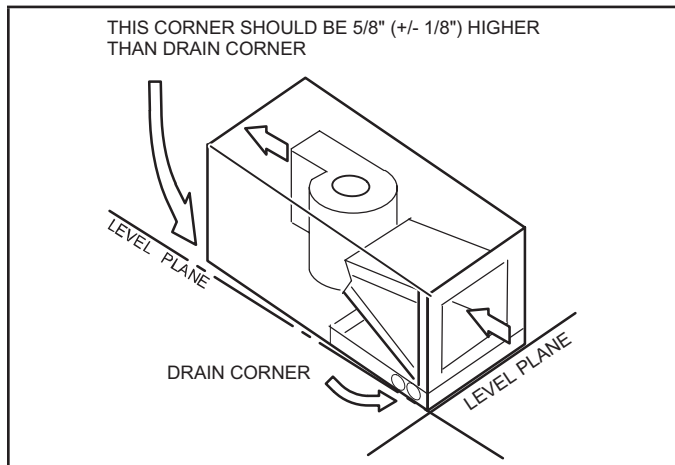

FIGURE 10. Sloping the Unit for Proper Drainage
- 3 - Set unit so that it is sloped toward the upflow drain pan end of the unit and level from front to back of unit (see figure 10).
Make sure the unit is sloped (similar to the slope shown in figure 10) so that the drain pan will empty completely without water standing in the pan.
- 6 - Install a 2" trap in the main (primary) drain lines as close to the unit as practical (see figure 10). Make sure the top of the trap is below the connection to the drain pan to allow complete drainage of the pan.